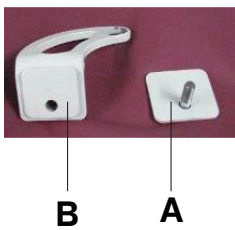
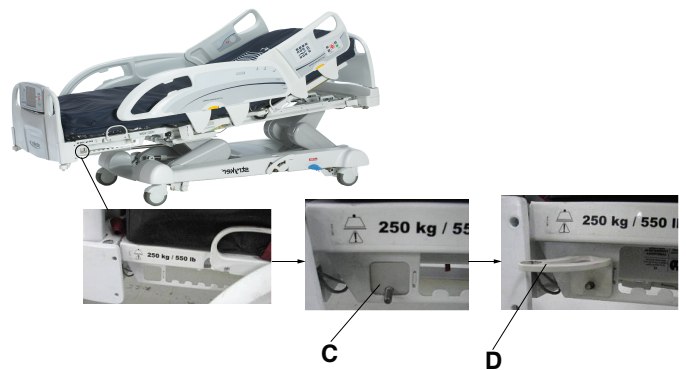

Figure 117 – Bracket and bracket back
Figure 118 – Attaching the bracket back and bracket
1. Attach the bracket back (A) and the bracket (B) (Figure 117) onto the end of the foot end foley bag hook at the foot end of the product (C and D) (Figure 118).